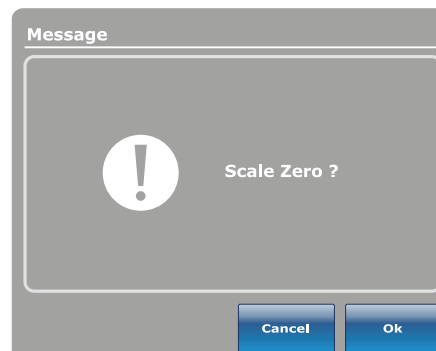

Figure 24: Scale Zero?
2. To confirm setting the scale to zero, tap **Ok** (Figure 24 on page 46).
To cancel the request, tap **Cancel** (Figure 24 on page 46).